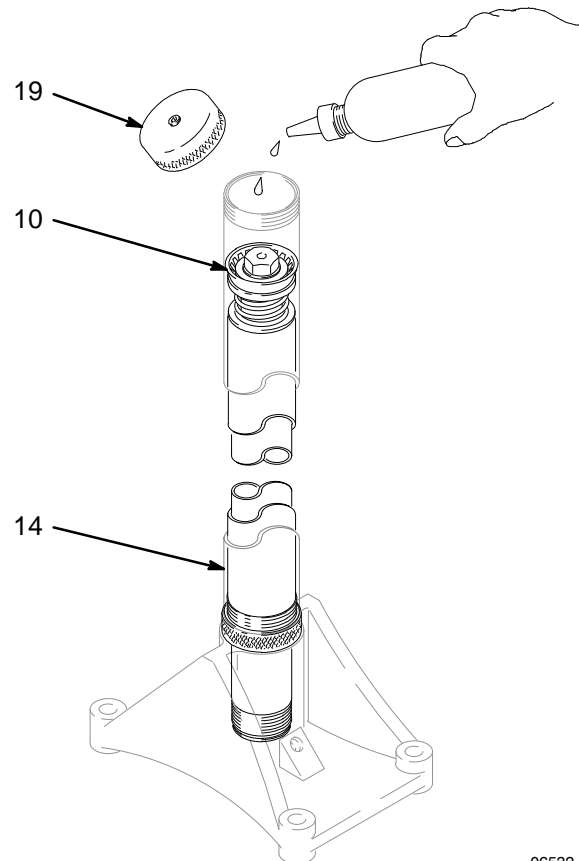

Fig. 3
Every two to six weeks, lubricate the elevator as follows: Disconnect the air supply, and relieve the air pressure; remove the elevator cap (19), and lubricate the inner surface of the elevator riser tube (14) and leather cup (10) with a few drops of lightweight, high-grade motor oil. See Fig. 3.